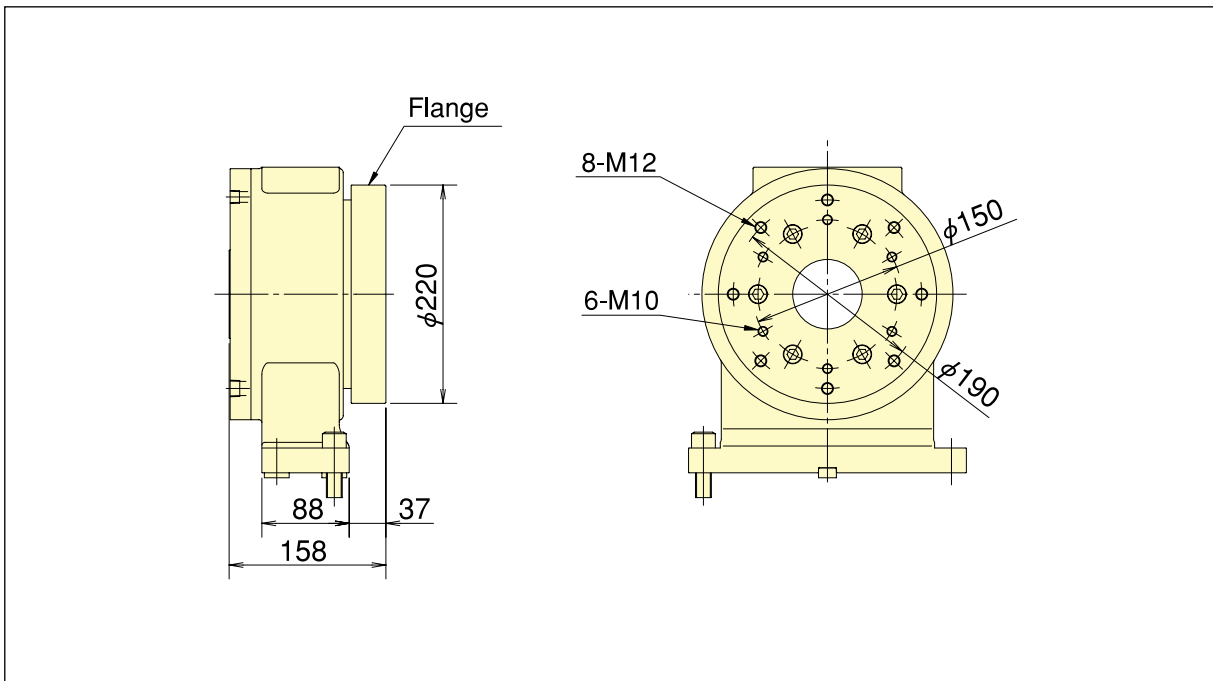

Fig. 1
Compatibility of the Face plate for TSR181A (H) and previous model TSR180A(H) is available by mounting optional flange parts (※Fig. 1)